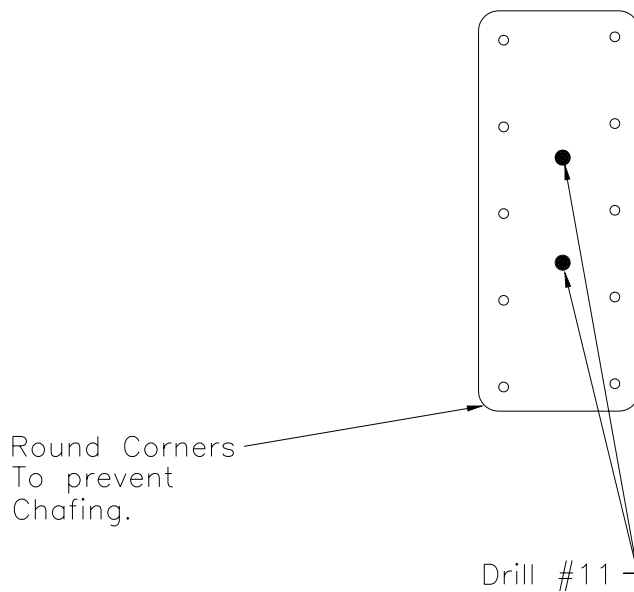

Figure 20.2.4
9) Back drill doublers for the bearing blocks. Figure 20.2.4.